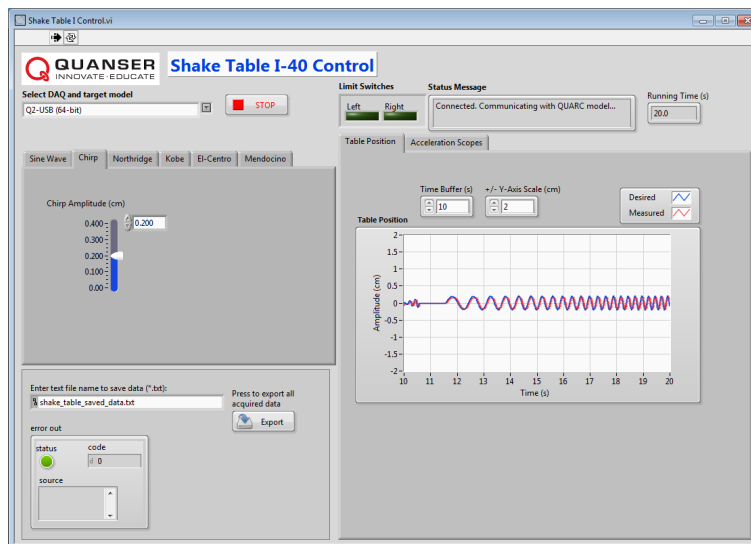

Figure 2.5: Running a chirp signal (sine sweep)
8. **Chirp:** The chirp signal is a sine wave that increases from 1.0 Hz to 10.0 Hz in 10.0 seconds and is useful, for instance, to identify the natural frequency of a structure. See the sample shown in Figure 2.5 when the amplitude is set to 0.2 centimeters. The amplitude of the sine sweep can be changed. Once the chirp signal is completed it restarts automatically.